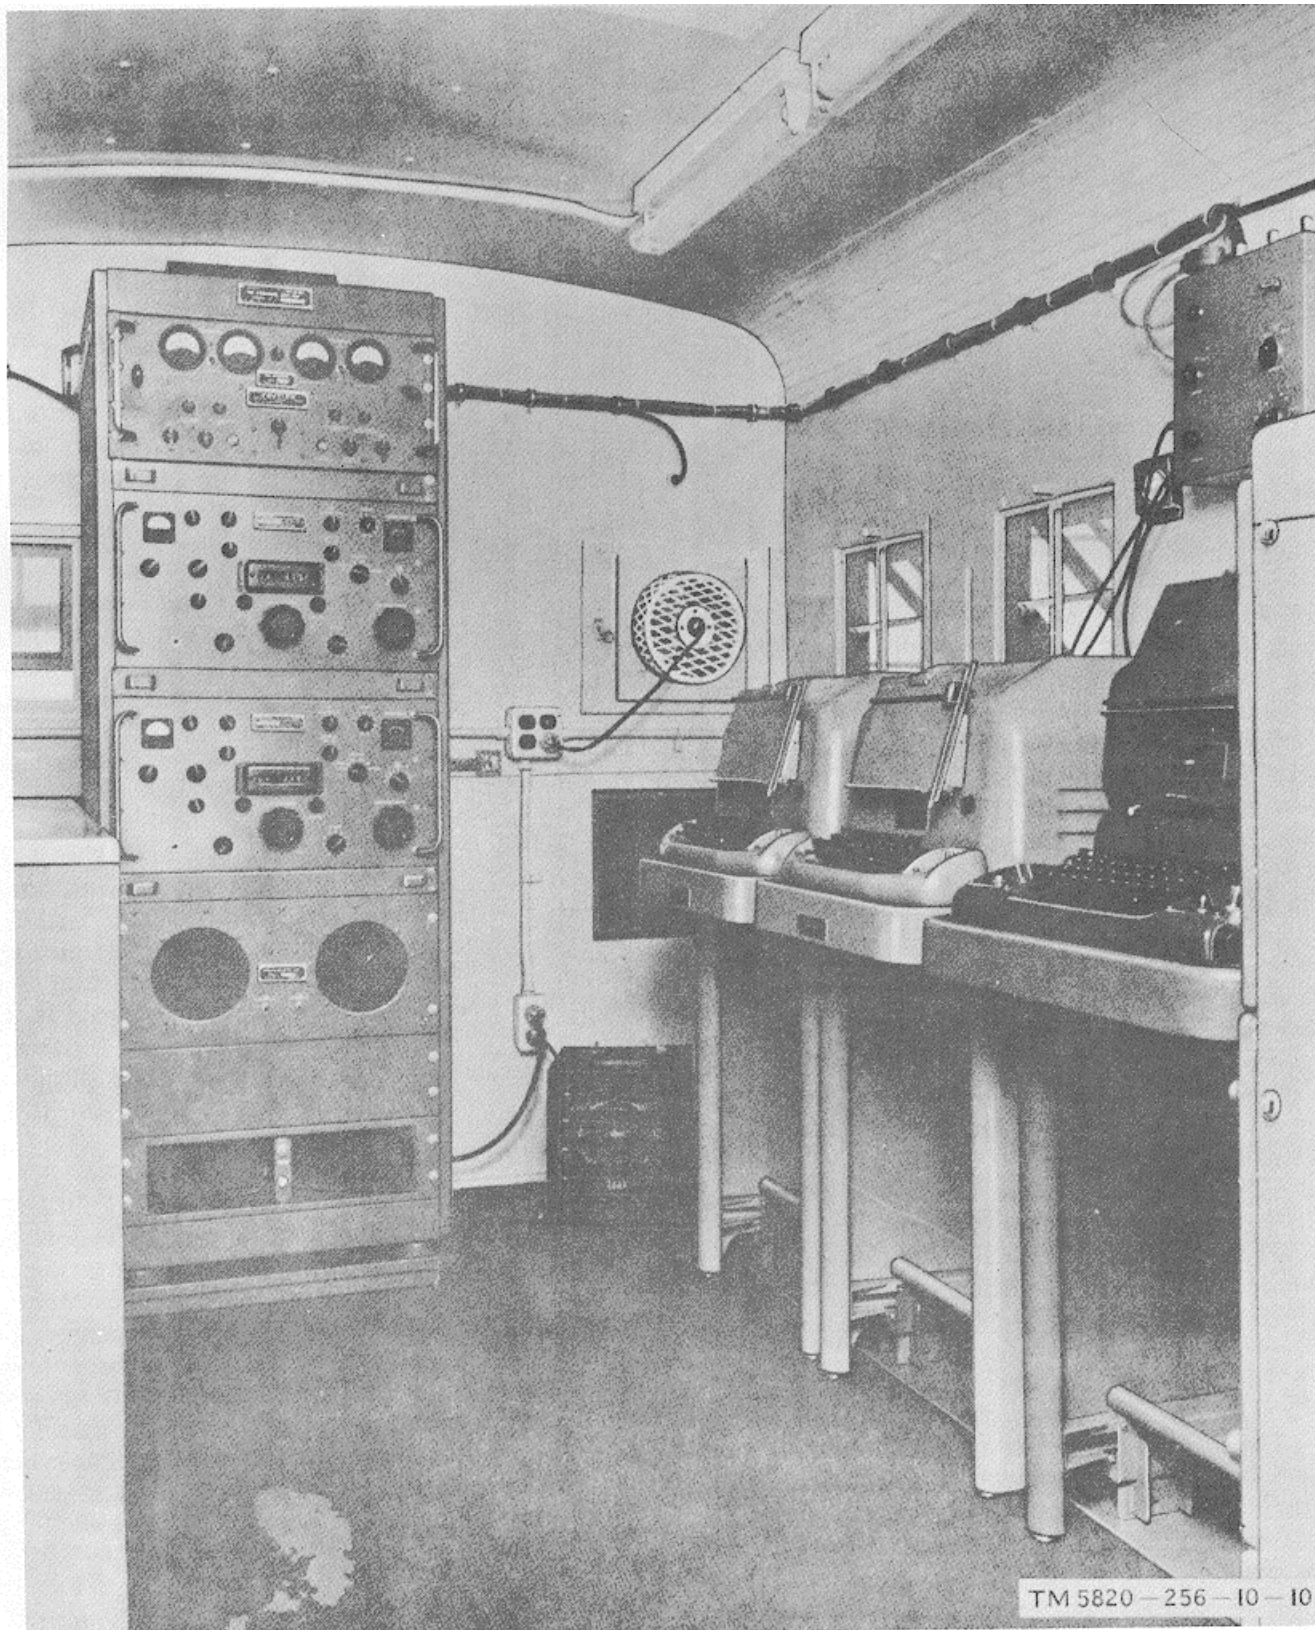

Figure 1-4. Radio Set AN/GRC-26D, interior front view.
Figures 1-4 through 1-10 show interior views of the shelter.
(fig. 1-4)
a. The control unit (fig. 1-4) is the control center for the radio set. The control unit routes the signals to be transmitted or received to the proper components of the radio set for each particular type of operation (fsk, am, voice, cw, fsk am., and cryptographic (crypto)). The control unit receives mark and space signals from-
(fig. 1-4 and 1-9)
a. *Cabinet, Electrical Equipment CY-1807/G* (fig. 1-4). The metal equipment cabinet is a rack-type cabinet that houses the two receivers, a converter, a speaker assembly, and Blower Assembly, Electrical HD-223/G. The equipment cabinet is shock mounted to the floor and wall of the shelter. A stainless-steel utility table can be fastened to the front of the equipment cabinet at the correct servicing height for the three major components in the equipment cabinet. When not in use, the utility table is attached to the shelter wall by brackets.
b. Cabinet, Storage CY-1721()/GRC (fig. 1-4)*
c. Clock (fig. 1-4). The clock is mounted in a metal case. The mounting frame has four holes which are for mounting of the dock on the curt>side wall above the teletypewriter equipment.
d. Heater (fig. 1-4). The heater is housed in a black metal case with a cast aluminum grid. It operates on 115-volt, 50- to 60-Hertz (Hz), single-phase ac and consumes 1,500 watts. A thermal reset switch is on the front panel below the grid.